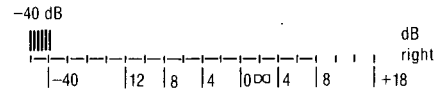

Fig. 17
5. At this time, check that -40 dB indicator is dimmed (intermediate brightness between full brightness and light-out: See fig. 17).